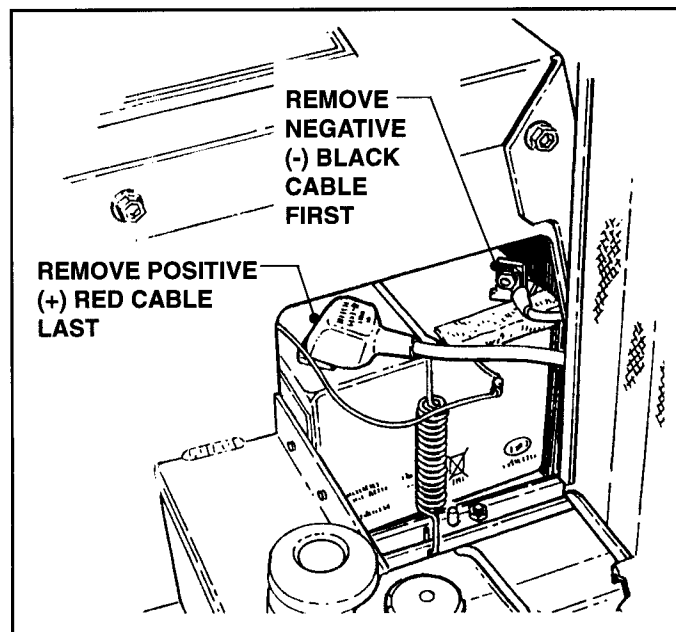

FIGURE 6.5
A. Disconnect the Battery. Remove NEGATIVE (-) BLACK Cable first and POSITIVE (+) RED Cable last. Secure Cables away from the Battery. See Figure 6.5.
1. Place the Spacer between the Hydro Transaxle and mounting surface of Frame. Insert the two (2) 3/8 - 16 x 4-3/4" Bolts thru the holes in top of the Frame, Spacer and Transaxle. Secure Bolts with Flat Washers and Locknuts. Torque to 31 Ft. Lbs. (42.16 N•m).
2. Secure the Hydro Transaxle to the Bearing Mount Weldment with the eight (8) 1/4 - 20 x 5/8 Hex Flange Lock Screws. Torque to 8 Ft. Lbs. (10.88 N•m).
F. Depress Idler Pulley and place Traction Belt(s) over Input Pulley. Move the Input Pulley on its Shaft until the Belt is aligned with Traction Pulley. Tighten the two (2) 5/16 - 18 x 5/16 Sq. Hd. Set Screws.
M. Reconnect Battery (Refer to Figure 6.5.).